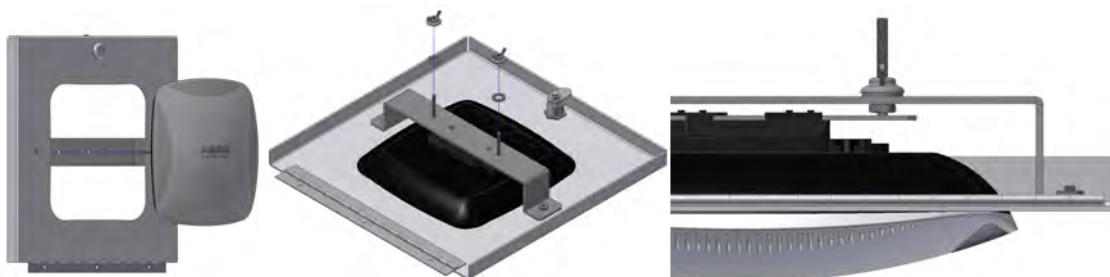

Figure 3 - T-Bar Bracket Install
Step 4 – Align the threaded studs to the two outer holes in the bracket attached to the door. Once the access point is snug in the hole, place the lock washer and wing nut onto the threaded rod. Tighten wing nuts until they are snug. With your fingers, tighten the hex nuts on the underside of the bracket then re-tighten the wing nuts until they no longer move freely (Figure 3).